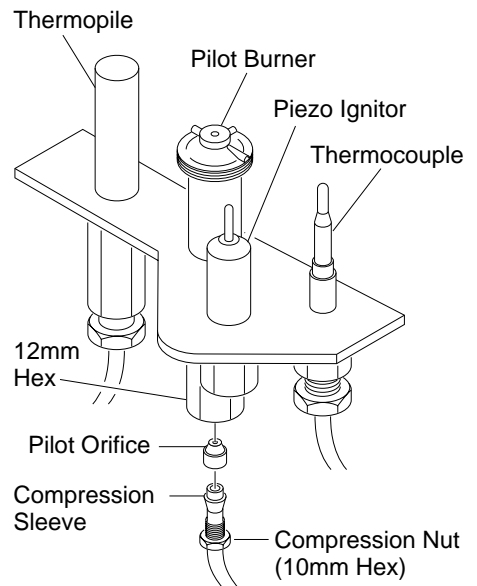

Figure 5 - Removing/Replacing Pilot Orifice
6. Convert the pilot burner by changing out the pilot orifice. Remove the compression nut and compression sleeve from the pilot. Remove the pilot orifice from inside the pilot barrel (see Figure 5). Replace with the pilot orifice supplied with this kit. **Note:** The new pilot orifice has the number 30 stamped on it for identification purposes.
7. Place open end of pilot orifice on top of compression sleeve and carefully slide up inside pilot burner. Tighten compression nut (see Figure 5).